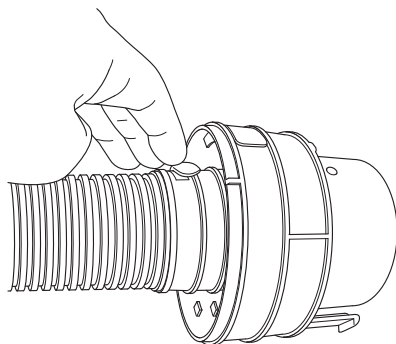

Fig. 24
5. Unfasten the clips on the boiler adaptor and insert the end of the flue duct with the seal into the 60mm socket. Ensure the seal is positioned past the clips, then engage the clips over the larger diameter 'rib' on the duct (Fig. 24).